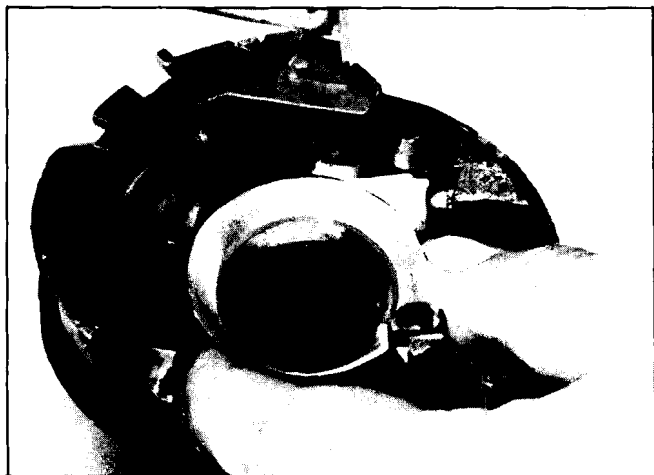

Fig. 9-41 Removing or Installing Thrust Cup
11. Remove thrust cup if still attached to housing (Fig. 9-41).
5. Install the thrust cup on the bottom hub of the housing (Fig. 9-41).